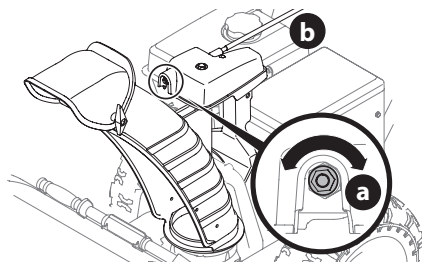

Figure 44
1. To increase preload, tighten hex nut (a) clockwise in $\frac{1}{4}$ turn intervals. The chute control rod (b) will need to be held stationary when tightening the nut (Figure 44).